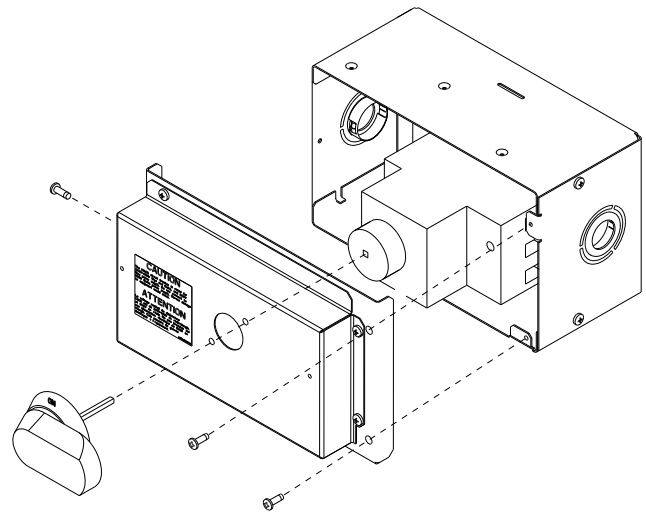

Fig. 22 — HACR Handle and Shaft Assembly
2. Remove (3) cap head screws that secure the HACR enclosure — (2) on the face of the cover and (1) on the left side cover. See Fig. 22.
5. Insert the shaft all the way with the cross pin on the top of the shaft in the horizontal position. See Fig. 22.